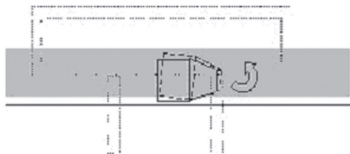

Figure 7c: Test 3, tilting cone.
5. Let the cone sink into the space by its own weight. If the cone is tilted, use one hand to gently level it (figure 7c). Do not push the tool down into the gap. Note: If a mattress stop, rail support, or other structure keeps the cone from sinking in the gap, put the cone tool at a different location along the rail where there is no interference.